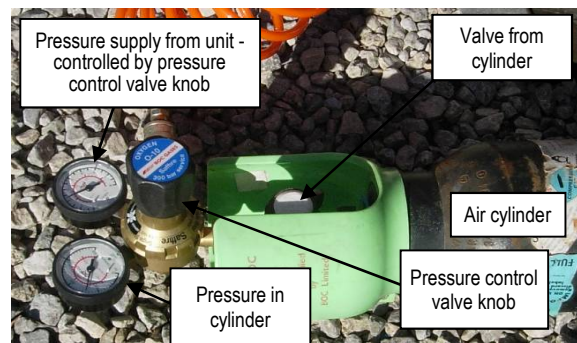

Figure 5.6 Thumper pressure regulator
- Screw the regulator valve on to the bottle (Figure 5.6), using a spanner to tighten (moderately – not too – tight).